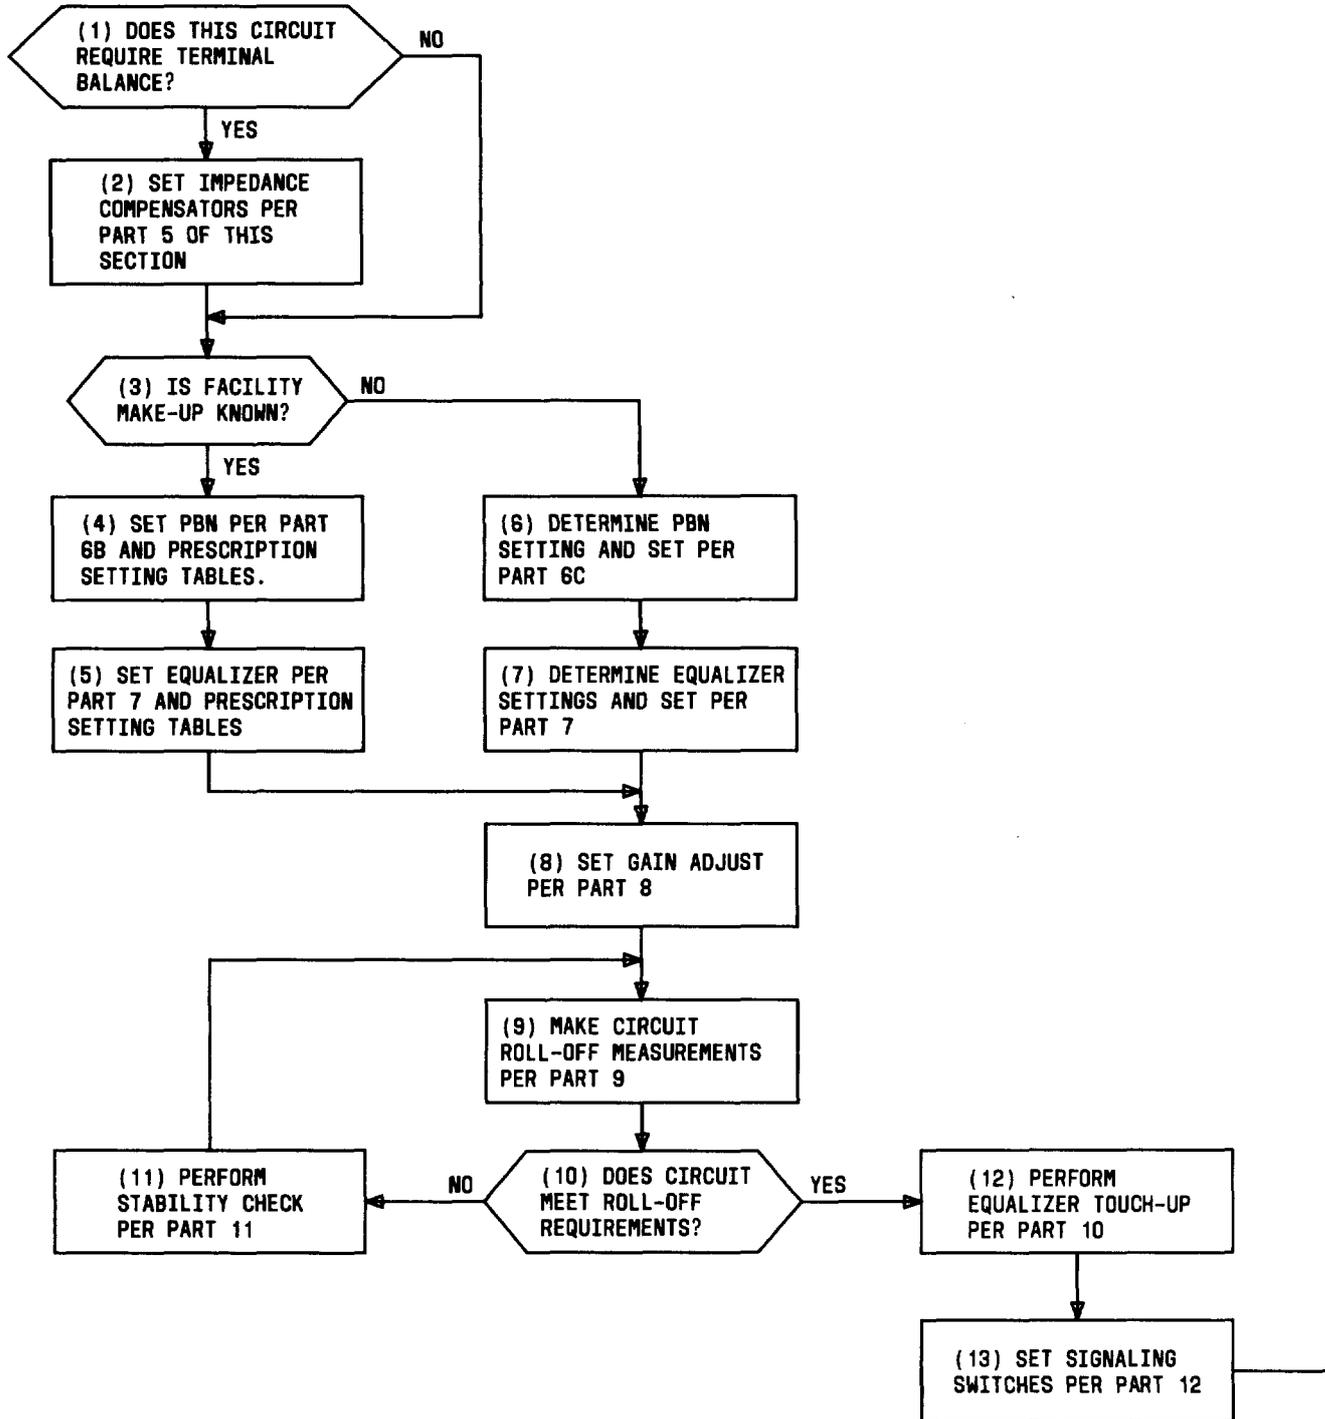

Fig. 4—Transmission Alignment Sequence Flowchart
should be followed when using this section. Parts 5 through 11 of this section supplements Fig. 4 where additional information is required to perform the individual transmission tests while Part 12 gives similar information on setting the signaling lead switches.
4.01 Figure 4 provides a flowchart which presents the overall process for setting up the J99343PB (L1, L2, or L3) repeaters. This flowchart